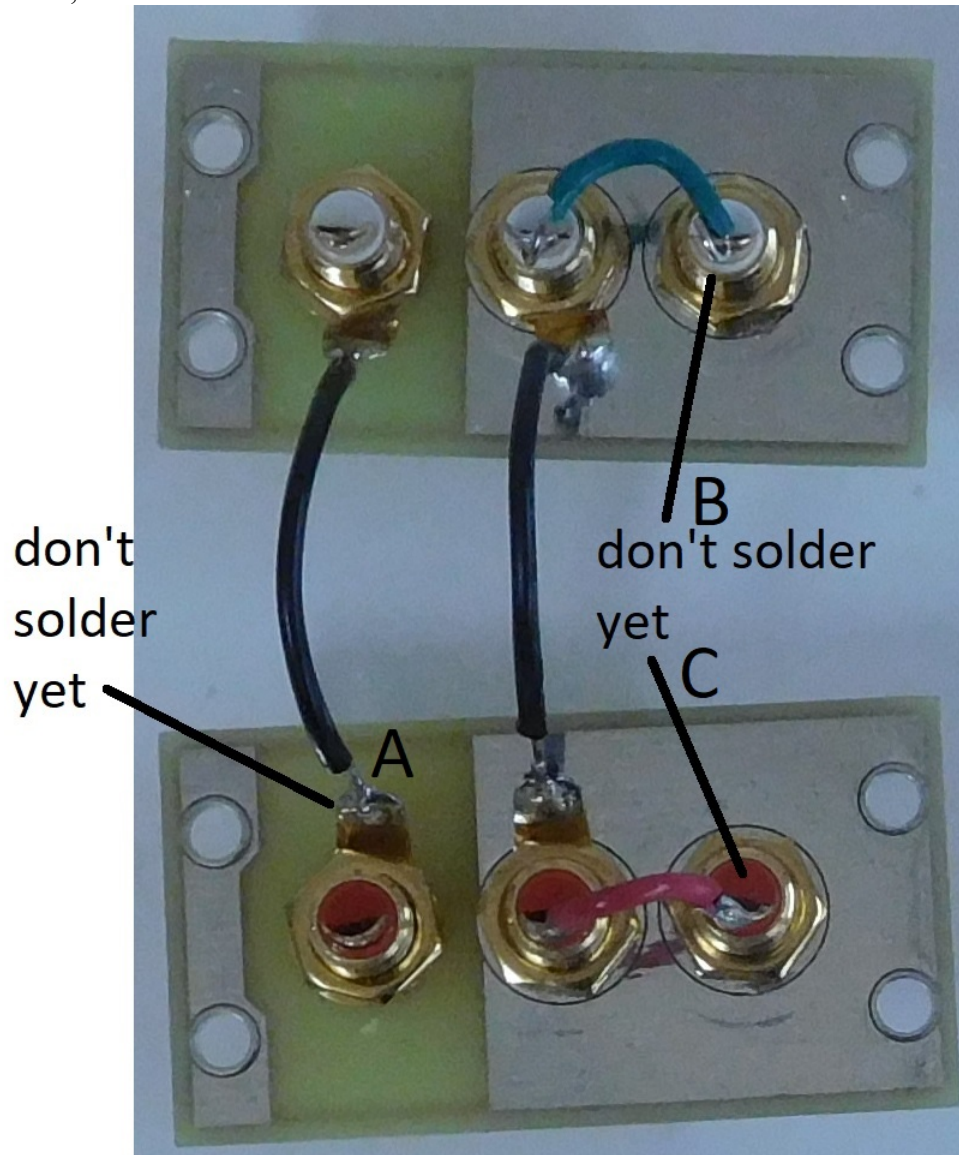

Figure 3-Pre-wire the jacks as shown, but don't yet solder the three indicated places
1. Cut a two 2" lengths of black wire. Strip ¼" of insulation from all four ends. Form the bare ends into hooks. Slip those hooks into the ground lugs as shown in Figure 3.
2. Cut a 1" length of green wire, strip ¼" of insulation from both sides. Install the wires as shown in Figure 3. Solder and don't solder as indicated.
3. Cut a 1" length of red wire, strip ¼" of insulation from both sides. Install the wires as shown in Figure 3. Solder and don't solder as indicated.